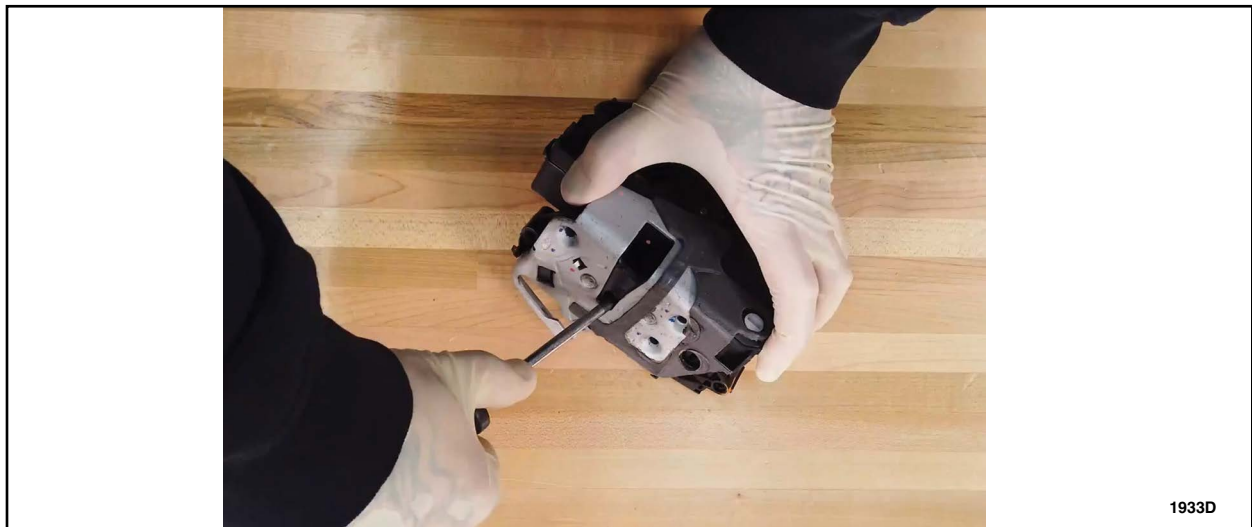

FIGURE 11
1. Using a suitable screwdriver, insert and engage the door latch mechanism. See Figure 11.